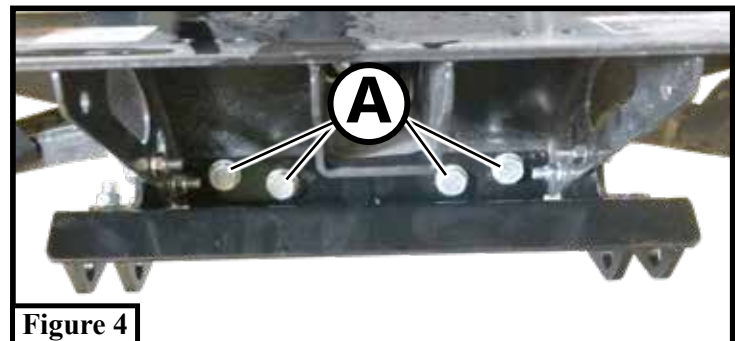

Figure 4
“Figure 4” Pin Attachment Brackets
6. Install the pin attachment brackets (Item 7.1) to the push tubes (Item 1) using bolts (Item 7.4.1) and nuts (Item 7.4.2) as shown in **Figure 4**. **Torque hardware to 31 lb-ft.**
3. Hold plow mount (1) in place and loosely secure to OEM front receiver using bolts (A) removed in step 2 as shown in Figure 4.